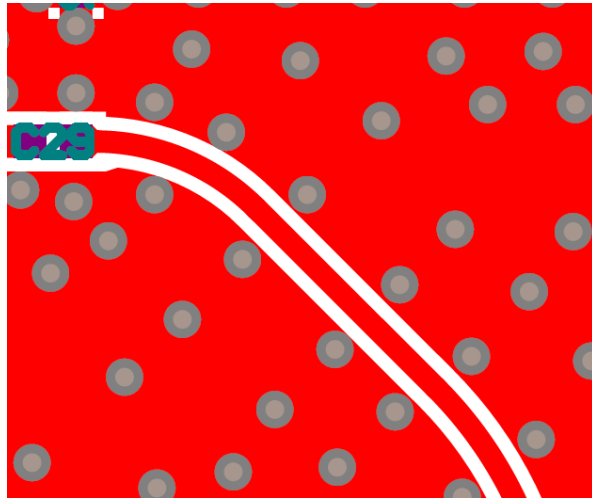

Figure 28: Curved RF Trace
- **Passive antenna:** An external LNA Infineon BGA52N6, shown in Figure 28, is present on the GNSS RF to allow optimum sensitivity in passive antenna implementations.